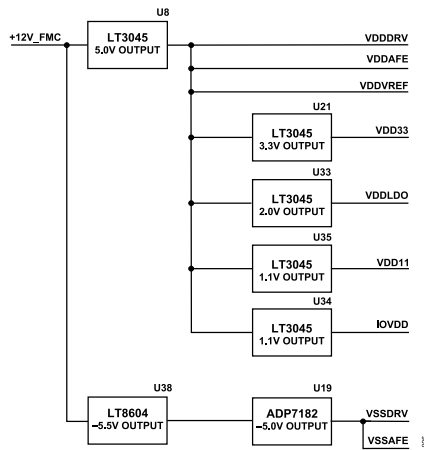

Figure 6. Power Circuitry Simplified Schematic
- ▶ On-board generated rails (default): The rails are taken in from the LT3045 regulators (U34 and U35), as shown in Figure 6.
- ▶ On-board generated rail (default): The rail is supplied by an LT3045 LDO regulator (U21), as shown in Figure 6.